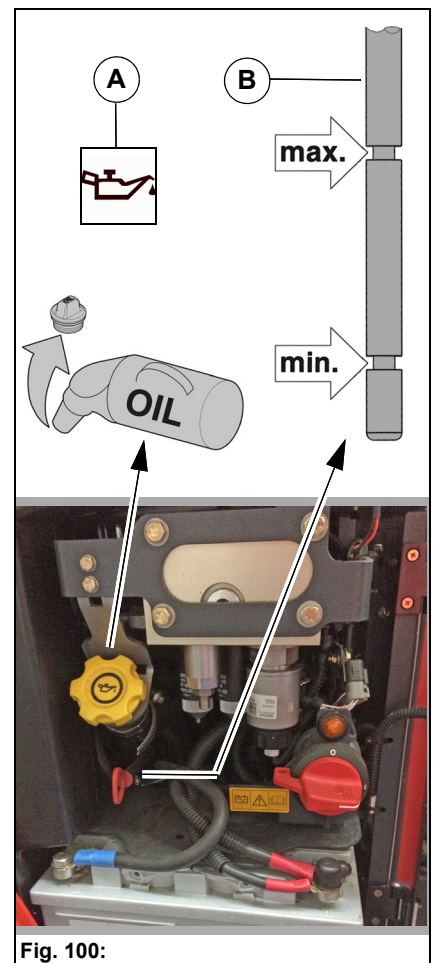

Fig. 100:
- If the engine oil pressure warning symbol **Fig. 100-A** appears in the multifunctional display with the engine running, there is a risk of engine damage! Stop the vehicle in the safe range. Turn the engine off immediately and check the oil level. Have the cause of the inadequate engine oil pressure removed.
2. Check the engine oil level with the dip stick **Fig. 100-B**.